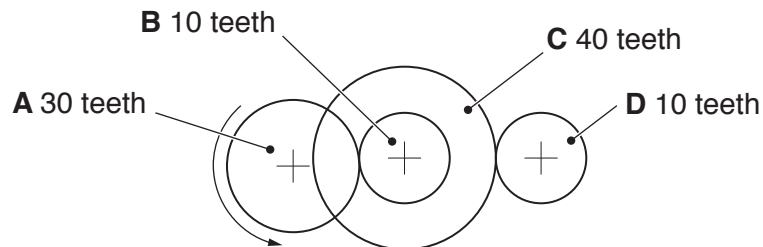

Fig. 5.2
- (c) Fig. 5.2 shows a gear train.
- (ii) Calculate the gear ratio of the compound gear train shown in Fig. 5.2. [3]